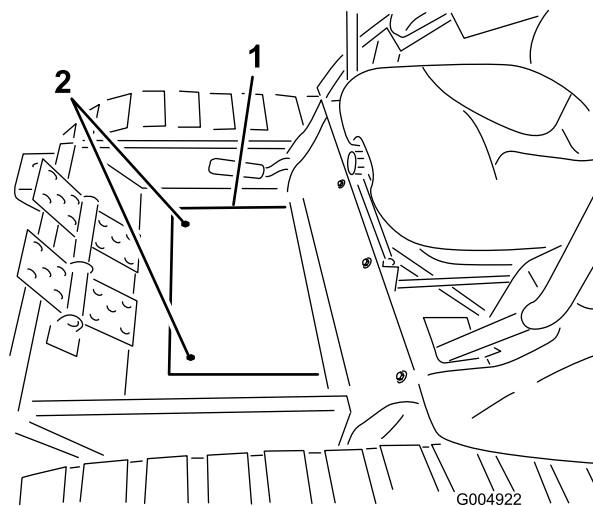

Figure 15
3. Remove the two screws securing the winter frame floor plate cover to the floor and remove the plate (Figure 15).